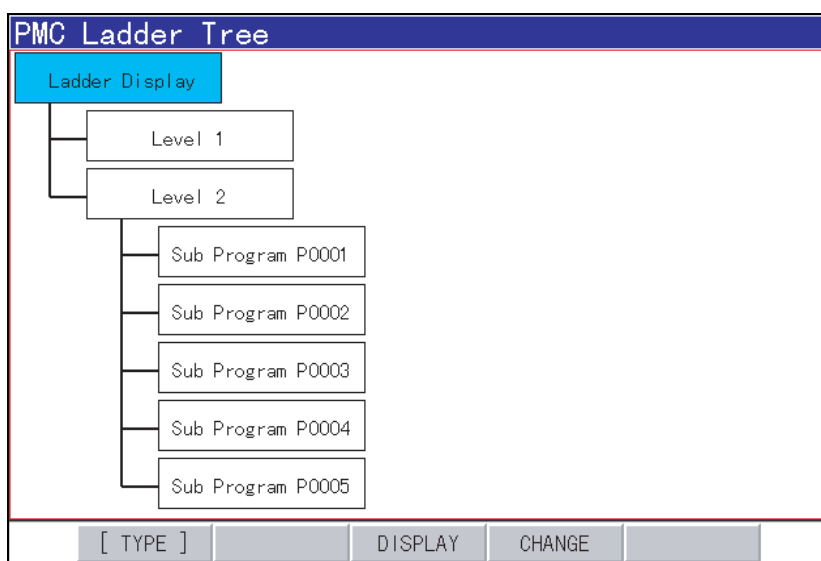

Fig. 9.21 (a) PMC ladder tree
- 4 Select PMC Display, and a screen such as that shown in Fig. 9.21 (a) appears.